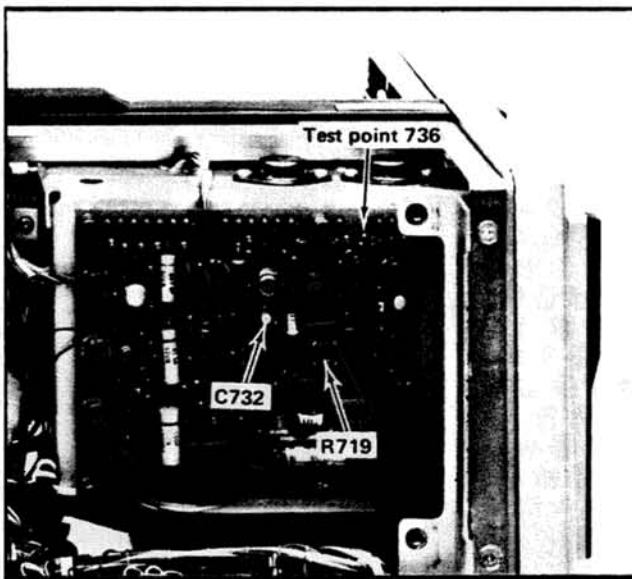

Fig. 5-23. Location of test point 736, C732, and R719.
- g. Turn the VERT TRACE SEPARATION (B) control fully CCW.
- j. Turn the VERT TRACE SEPARATION (B) control fully CW.
26. Check/Adjust Z-Axis Amplifier Compensation ①
- d. Connect the P6053 probe to test point 736 (see Fig. 5-23) on the Z-Axis circuit board.
- f. ADJUST—R719 and C732 (see Fig. 5-23) for optimum square leading corner and a waveform risetime of 30 nanoseconds or less.
- g. ADJUST—R719 and C732 (see Fig. 5-23) for optimum square leading corner and a waveform risetime of 30 nanoseconds or less.